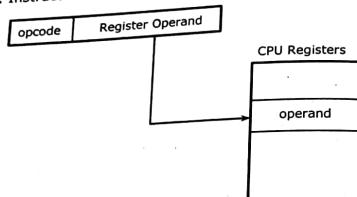

Fig. 5.4.2 Instruction Format of Register Addressing Mode
**Instruction Format :** Instruction format of register addressing mode is shown in Fig. 5.4.2.